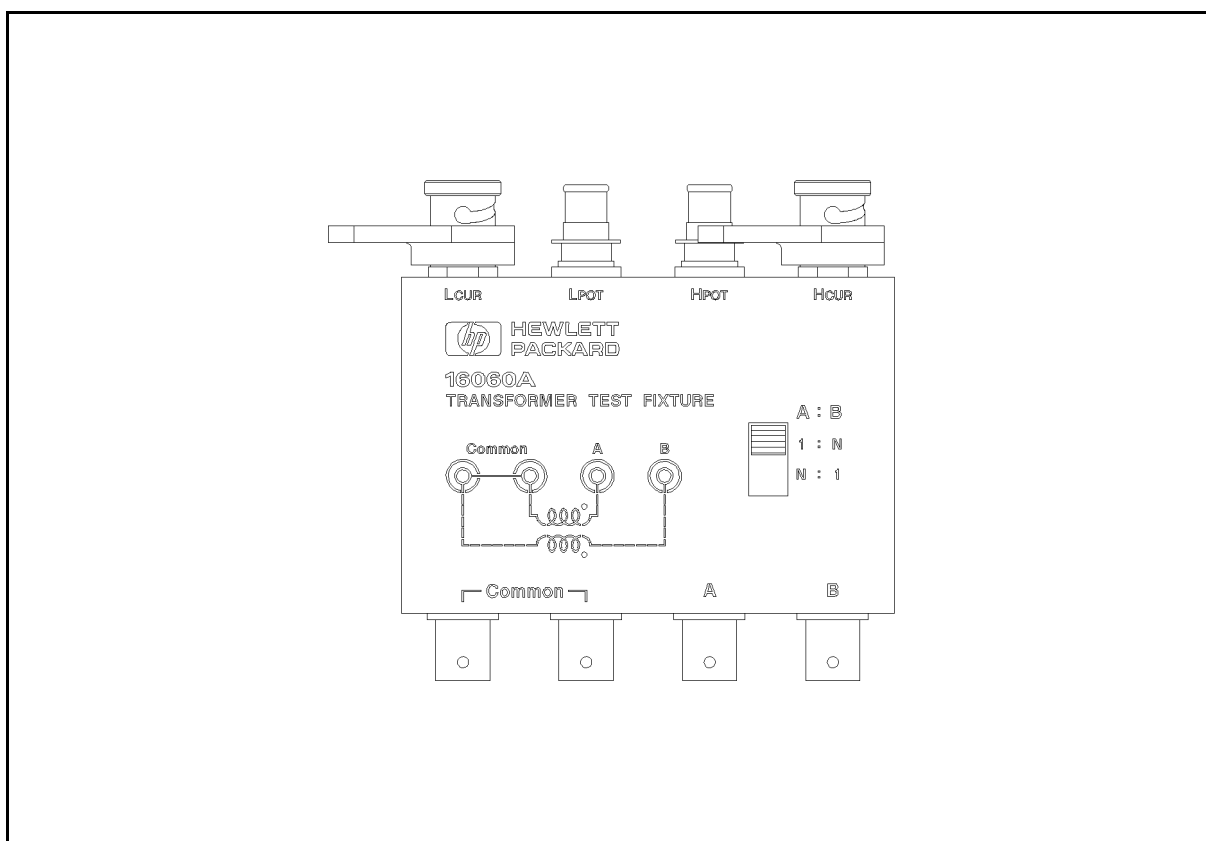
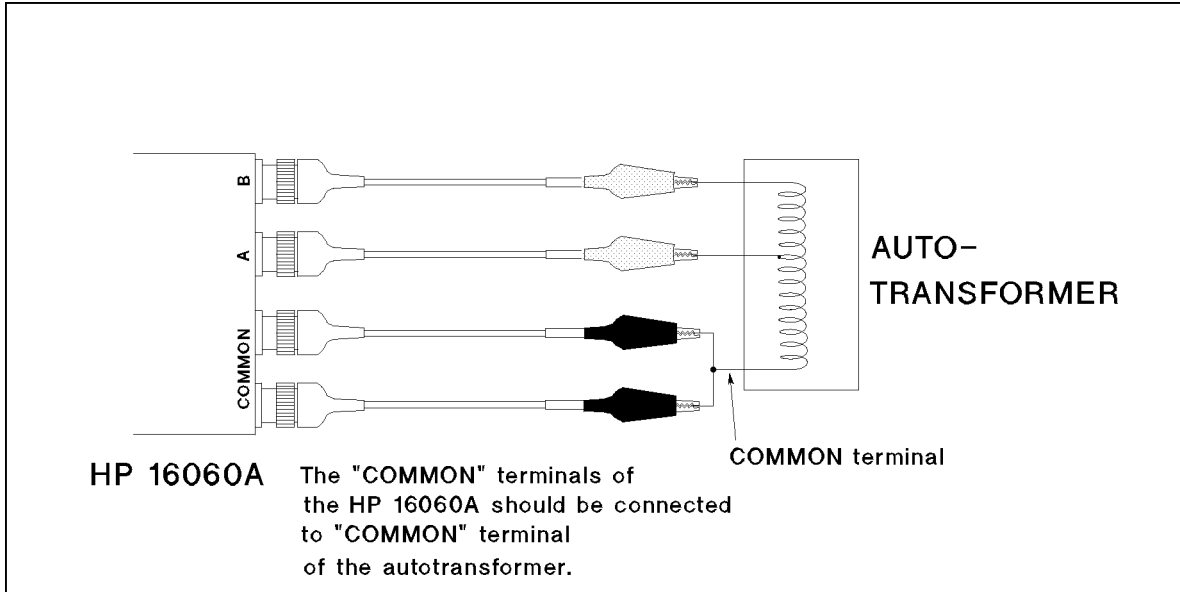
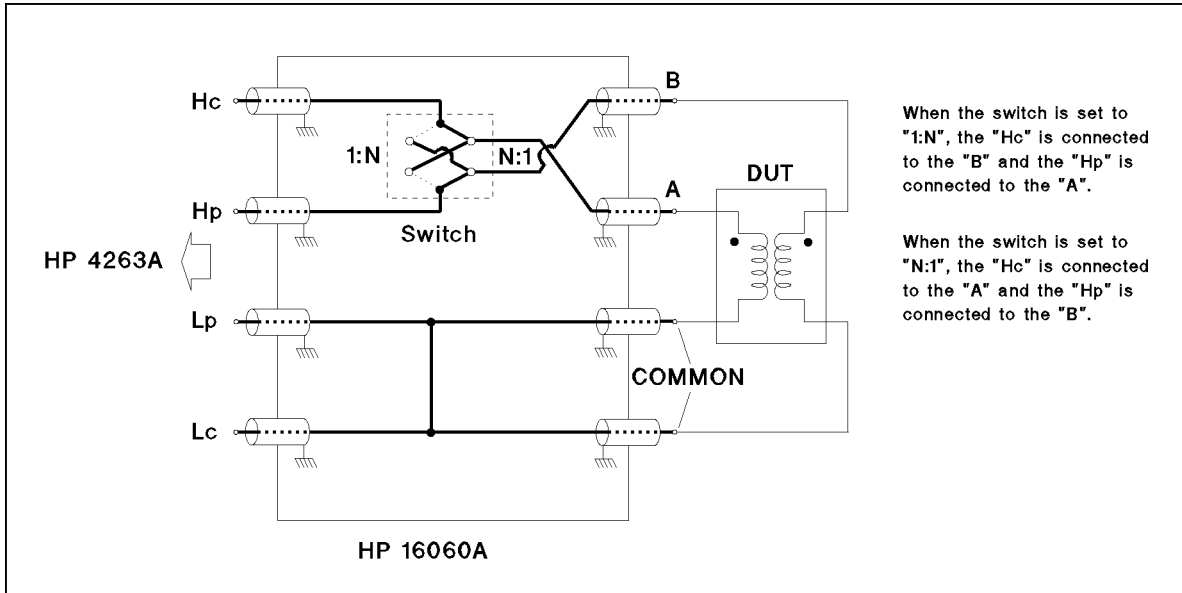

Figure 3-1. Test Fixture Features
Figure 3-4. Connecting an Autotransformer
Figure 3-5. Internal Circuit of the 16060A
This chapter describes the features of the 16060A (Figure 3-1), and describes how to connect a transformer to the test fixture (Figure 3-3 and Figure 3-4), how to set the A:B switch for different measurements, how to physically extend the measurement distance from the 4263A using cables and test leads, and describes the internal circuit of the 16060A.
3. *COMMON terminals.* These terminals are connected using test leads to the common (low) terminals of the transformer to be measured as shown in Figure 3-3 and Figure 3-4.
4. *A terminal.* Terminal A is connected using a test lead to one of the high terminals of the transformer under test as shown in Figure 3-3 and Figure 3-4.
5. *B terminal.* Terminal B is connected using a test lead to the other high terminal of the transformer under test as shown in Figure 3-3 and Figure 3-4.
5. The Figure 3-3 and Figure 3-4 show the connecting a transformer.
When the transformer to be measured has a terminal common to both the transformer's primary and secondary (for example: an autotransformer), connect the COMMON terminals of the 16060A to the common terminal of the transformer, because the COMMON terminals of the 16060A are connected together inside in the 16060A. (See Figure 3-4 and Figure 3-5.)
When the 16060A is used to measure an autotransformer, connect the test leads as shown in Figure 3-4.